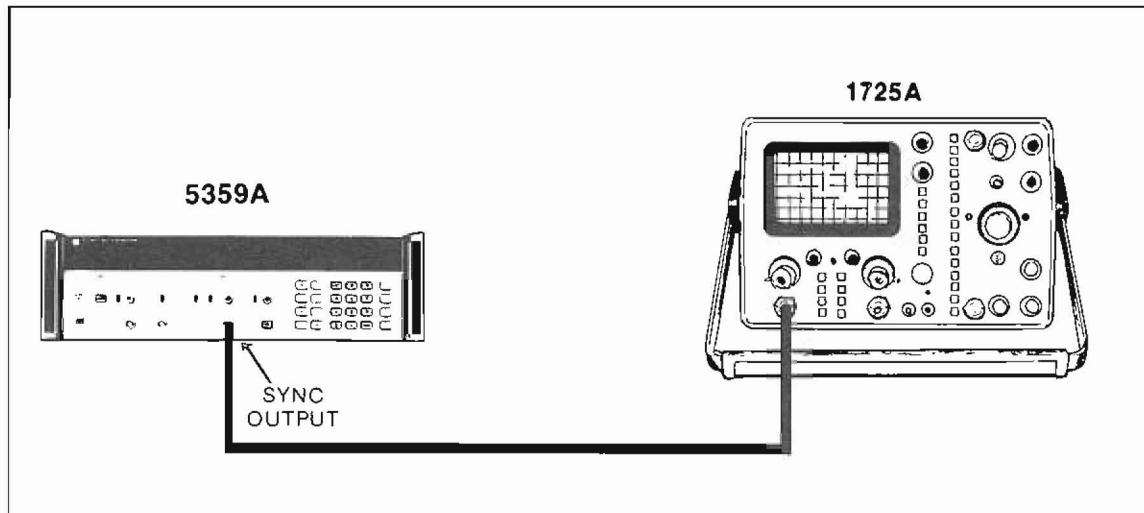

Figure 4-6. Setup for SYNC OUTPUT Performance Test
3. Connect the 5359A, and 1725A as shown in *Figure 4-6*.